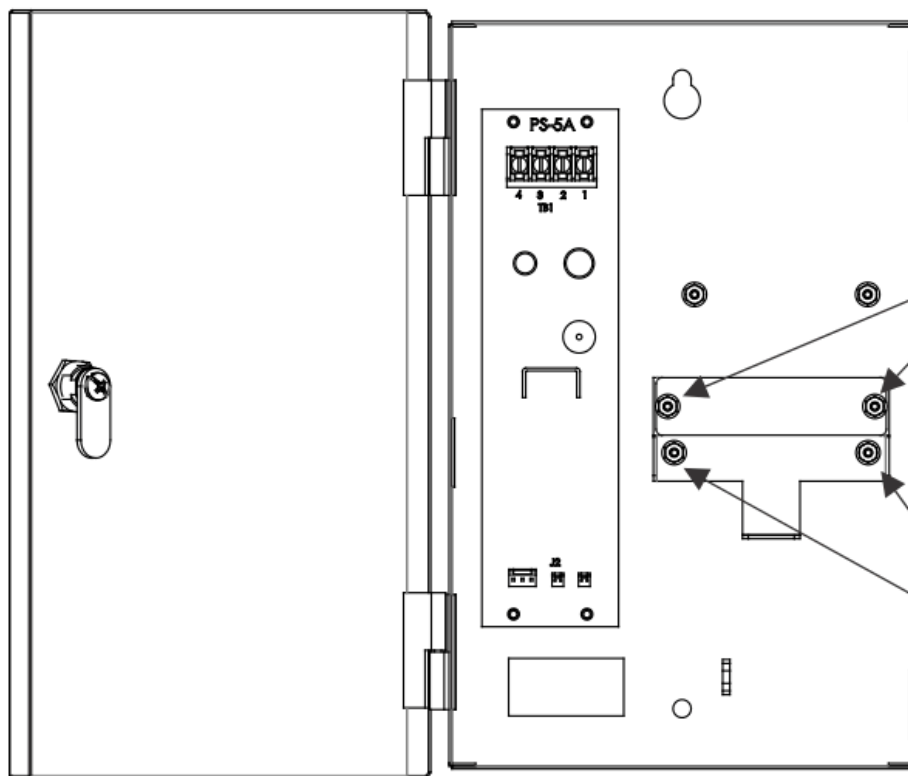

Figure 5 Mount the Bracket
4. Mount Raspberry bracket using the (2) nuts and remove the top bracket. See Figure 5.